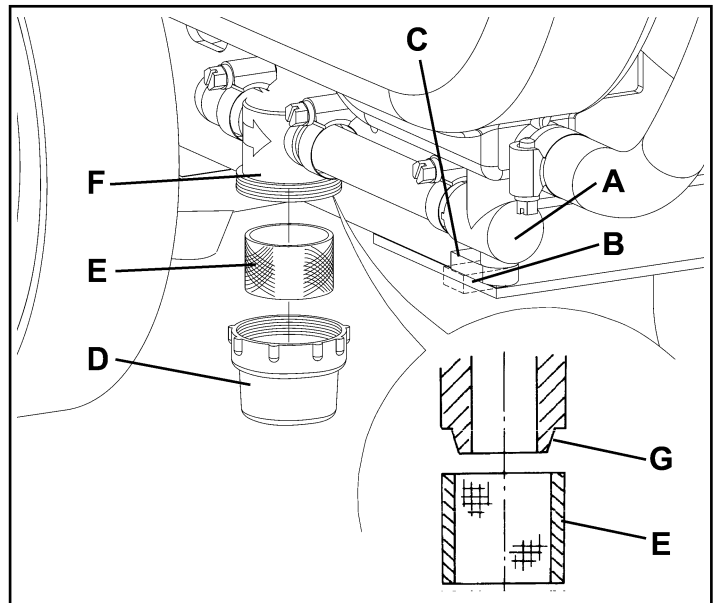

Figure 31
3. Close the solution/clean water tap (A, Fig. 31) under the machine, behind the right rear wheel. The tap (A) is closed when it is on the position (B) and it is open when it is on the position (C).
4. Remove the transparent cover (D), then remove the filter strainer (E). Clean and install them on the support (F).